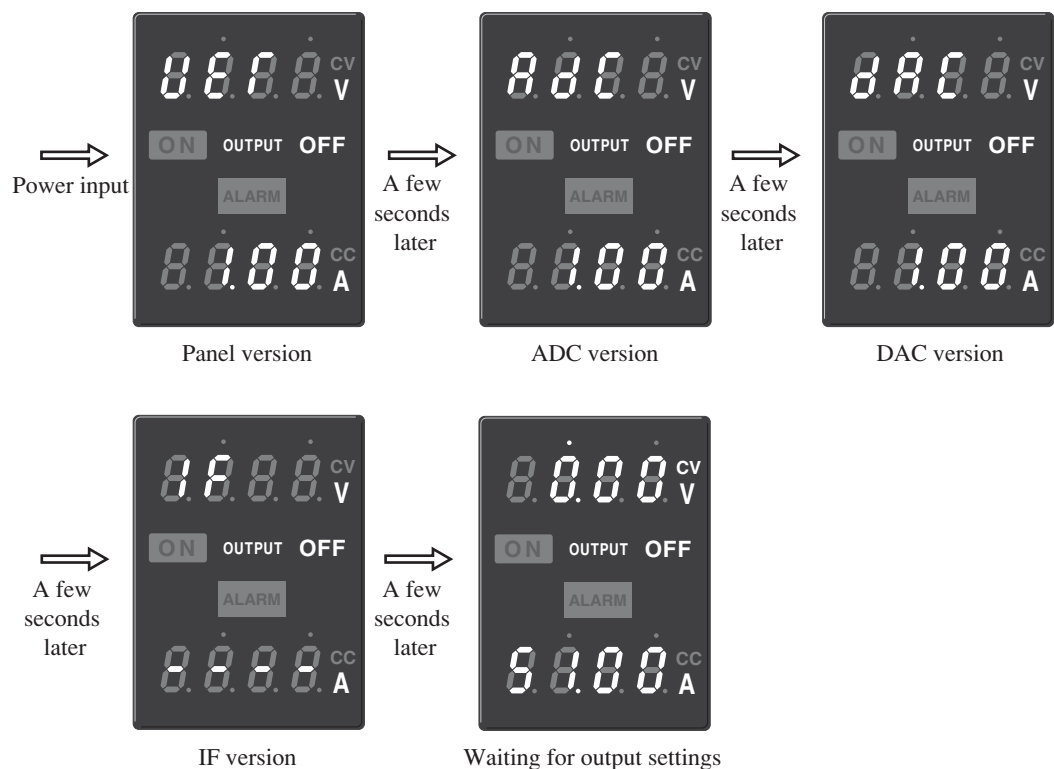

Fig.A-1 Versions on display
2. As shown in Fig. A-1, the display shows four versions for a few seconds.